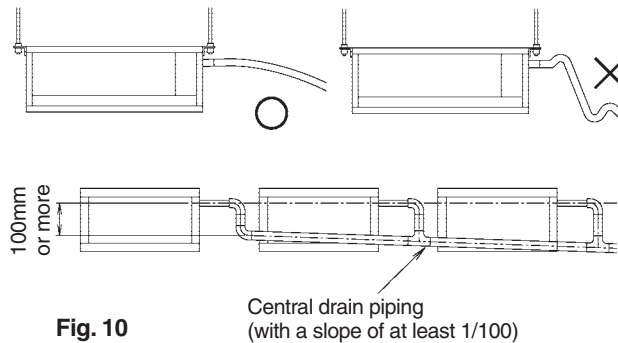

Fig. 10
- Keep the drain pipe short and sloping downwards at a gradient of at least 1/100 to prevent air pockets from forming. **(Refer to Fig. 10)**
- Do not twist or bend the drain hose (2), so that excessive force is not applied to it. (This type of treatment may cause leaking.)
- If you are using central drain piping, follow the procedure outlined in the figure 10.